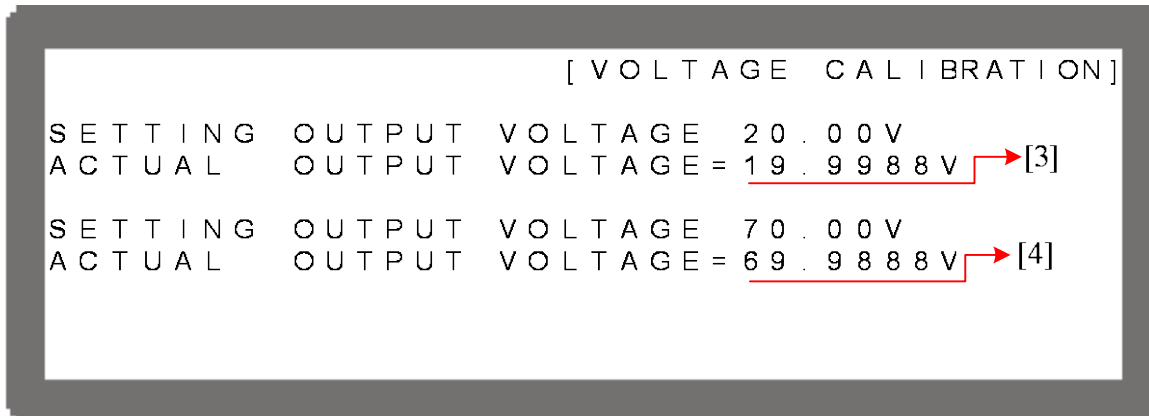

Figure 3-101
7. Press "↵" to do the high voltage range calibration (80V), the instrument will set the output voltage to 20.00V first and the cursor is stop at position [3] as Figure 3-101 shows. Enter the voltage measured by DVM (4 digits after decimal point) and press "ENTER" to confirm.
8. Press "↵" again to do the high voltage range calibration for its second point, the instrument will set the output voltage to 70.00V and the cursor is stopped at position [4] as Figure 3-101 shows. Enter the voltage measured by DVM (4 digits after decimal point) and press "ENTER" to confirm.